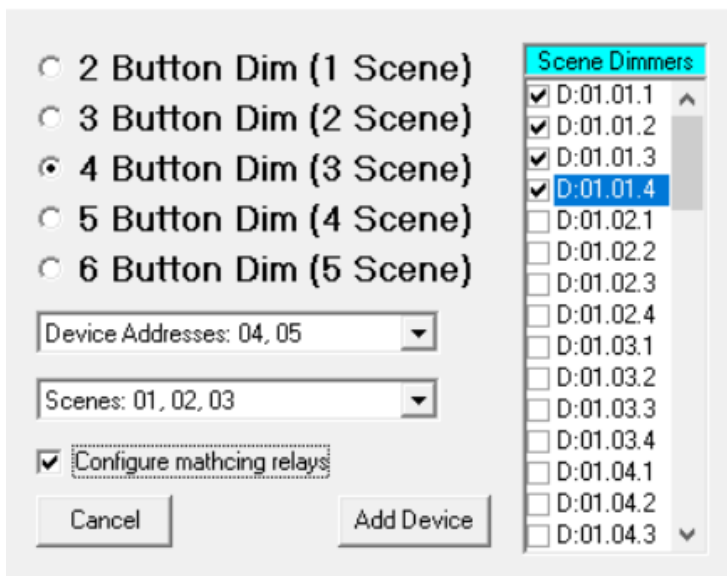

Figure 3
- In the Add Scene Device tool you will be selecting the dimmer zones to be controlled by the scenes. See Figure 3